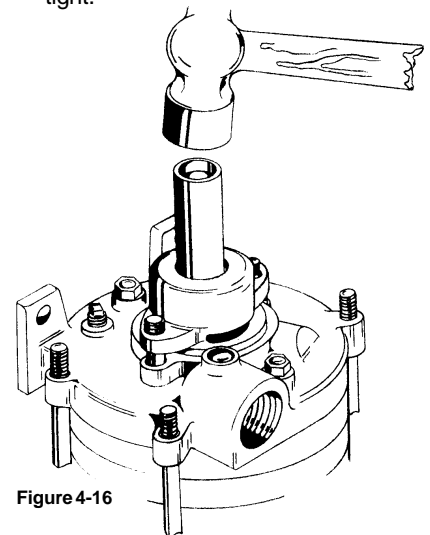

Figure 4-16
30. Place a metal support under the shaft opposite the extension. A 3/8" or 1/2" nut works well. The pump will be unstable in this position. It is well to have necessary tools at an easy reach. Drive the bearing arm assembly onto the shaft until the bearing rests against the shoulder provided. Driving should be done with a sleeve contacting the inner race only. (refer to figure 4-16) Secure with two nuts (#20), finger tight.